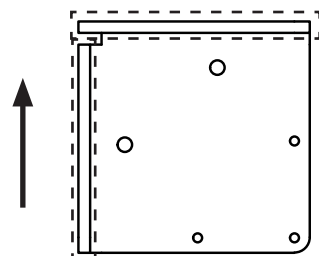
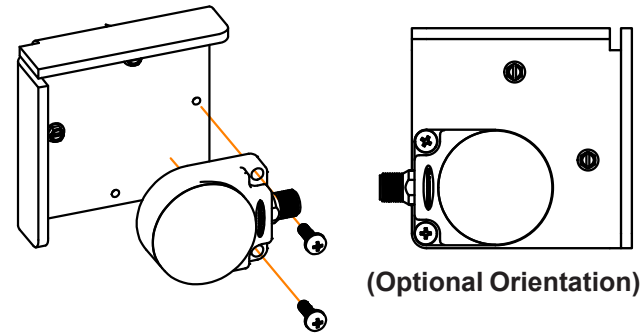

Figure 1
Figure 2
2. The sensor mounting bracket must be oriented correctly to provide impact/weather protection. See **Figure 1** below. Note that the bracket can be rotated 90 degrees clockwise if the wire routing will go to the left of the bracket. See **Figure 2**.
1. Mount the sensor to the bracket using the included hardware. See **Figure 2** below: